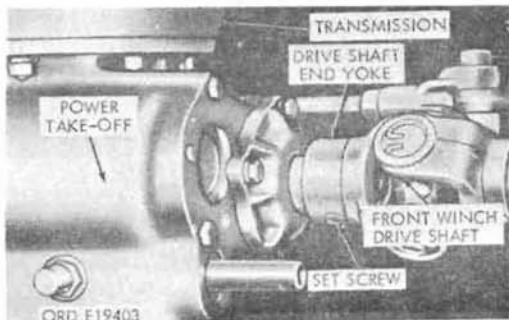

Figure 193. Transmission power takeoff with accessory drive
(2) Double-ended. The double-ended-transmission power takeoff (fig. 193) with accessory drive is mounted on left side of the transmission. The forward output shaft is a two-speed-and-reverse drive to the front winch with a shifting-lever control, the same as in (1) above. The rear accessory drive shaft drives the hydraulic hoist pump for dump mechanism on the dump trucks M47, M59 and M342 and is controlled by the driver's hydraulic hoist control lever.